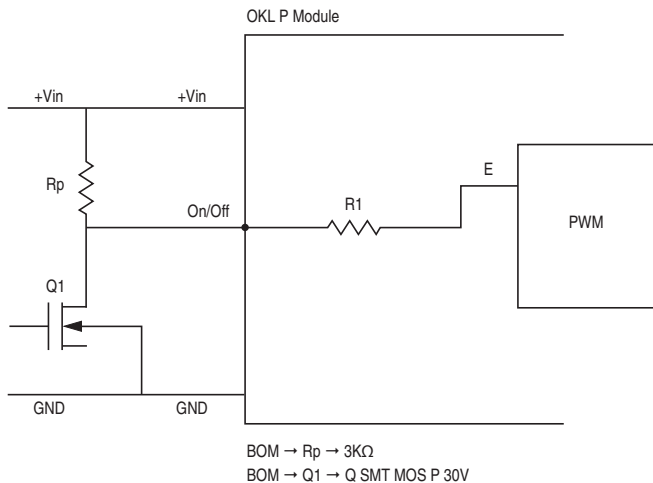

Figure 6. On/Off Circuit Control for Using Positive On/Off Logic
the voltage at the sequencing pin will be 50mV when the sequencing signal is at zero. See figure 6 for R1 connection for the sequencing signal to the SEQ pin.
The OKL Series power modules can be specified with either a positive or negative logic type. See Figures 6 and 7 for On/Off circuit control. In the positive logic on/off option the unit turns on during a logic high on the On/Off pin and turns off during a logic low. In a negative logic on/off option, the unit turns off during logic high and on during logic low. The On/Off signal should always be reference to ground. For positive or negative option, leaving then On/Off pin disconnected will turn the unit on when input voltage is present.
**Positive**—Units are enabled when the on/off pin is left open or is pulled high to +Vin. The On/Off circuit control is shown in figure 6. When the external transistor Q1 is in the off state, the internal PWM enable pin is pull high causing the unit to turn on. When Q1 is turn on, the On/Off pin is pulled low and the units is off. Rp should be around 3KΩ.